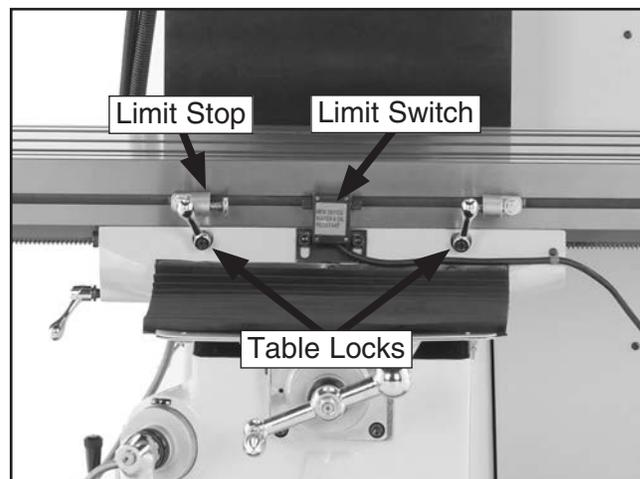

Figure 25. Table locks, limit switch, and limit stop.
2. Loosen the table locks (see **Figure 25**).